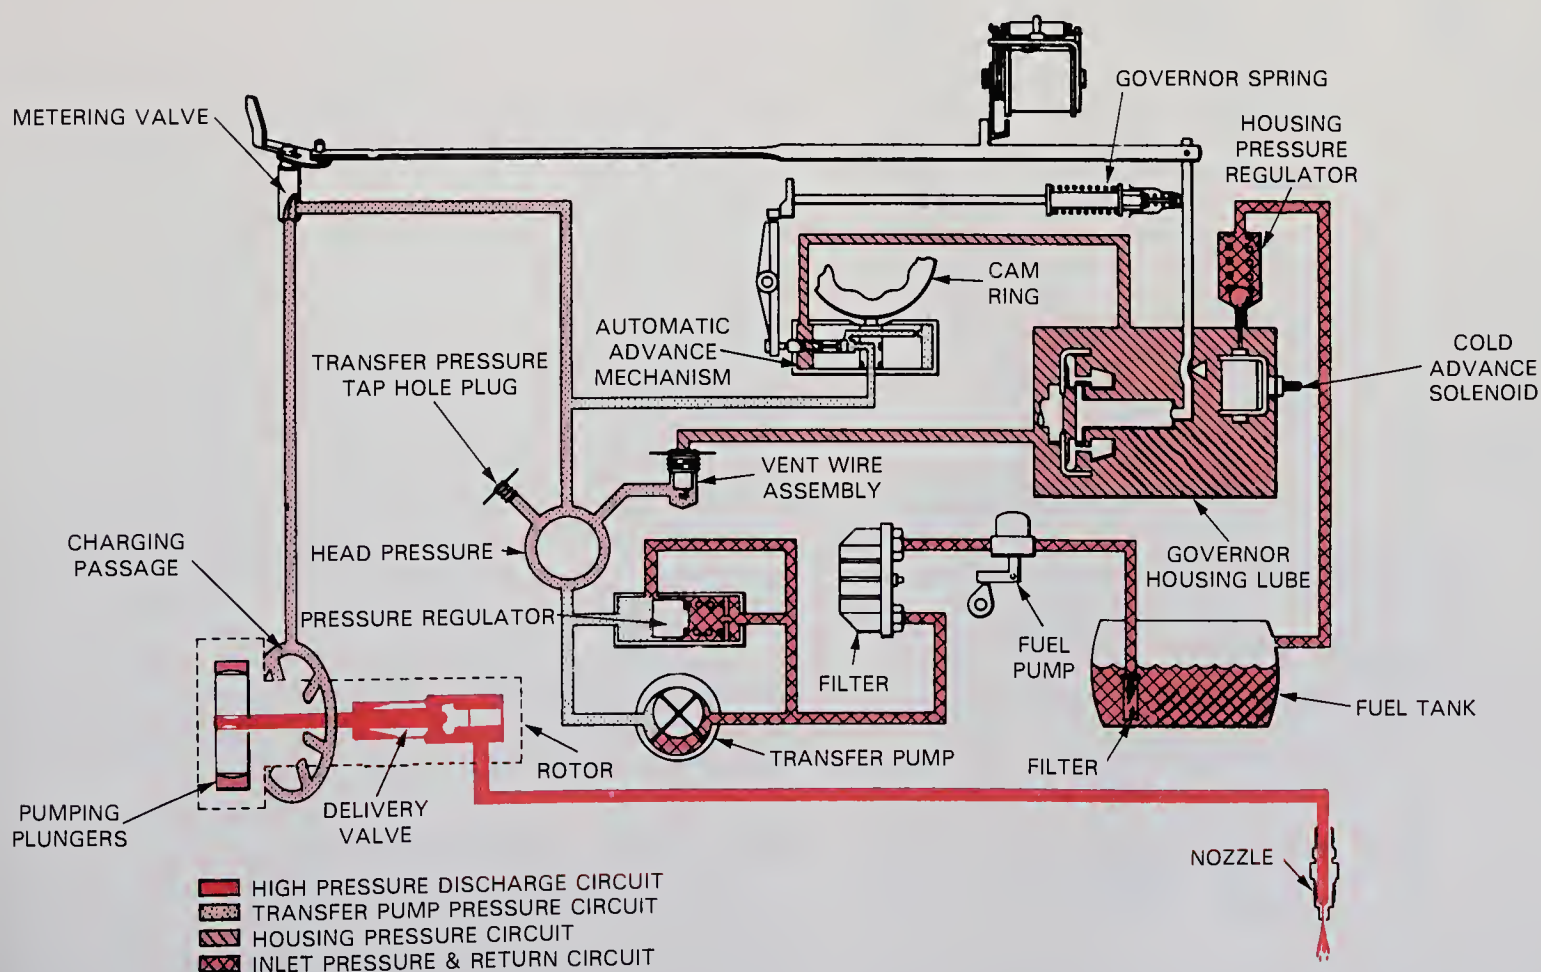

Fig. 23-20. Fuel circuit diagram for a two-plunger distributor injection pump. Can you trace fuel through system? (Oldsmobile)
The other parts of a two-plunger distributor pump (transfer pump, hydraulic head, delivery valve) are almost the same as in a single-plunger type pump. Fig. 23-20 gives a circuit diagram for a two-plunger distributor pump. Study this illustration carefully.
3. An **INJECTION PUMP VENT** is a small passage that allows fuel to return to the fuel tank. This helps bleed air out of system, Fig. 23-20.